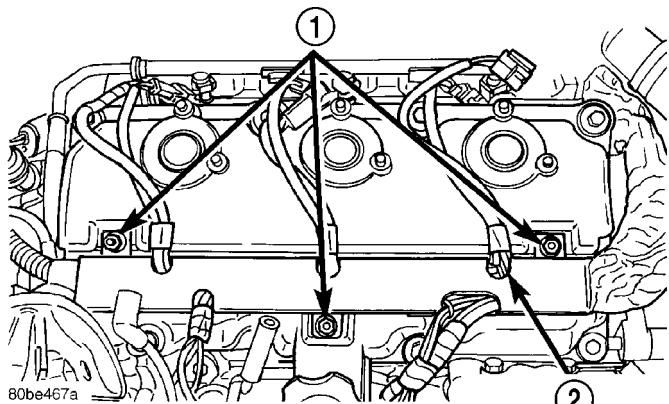

Fig. 22 WIRE HARNESS RETAINING NUTS
(5) Remove nuts attaching wire harness to cylinder head cover (Fig. 22). Move harness for cover removal clearance.
- (4) For right cylinder head cover installation perform the following:
- (5) Position wire harness on cylinder head cover and install retaining nuts (Fig. 22).